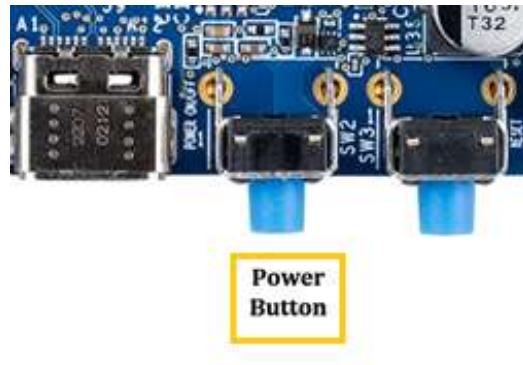
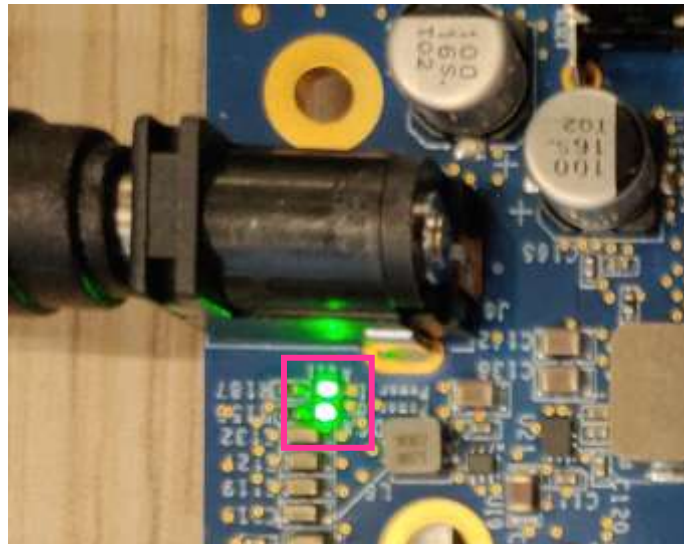

Figure 20. Power Button
Figure 21. Adjacent green LEDs lighting up
1. Press the button labeled 'PWR' to power up the Hailo-15H SBC, the adjacent green LED will light ON. See Figure 20 and Figure 21.